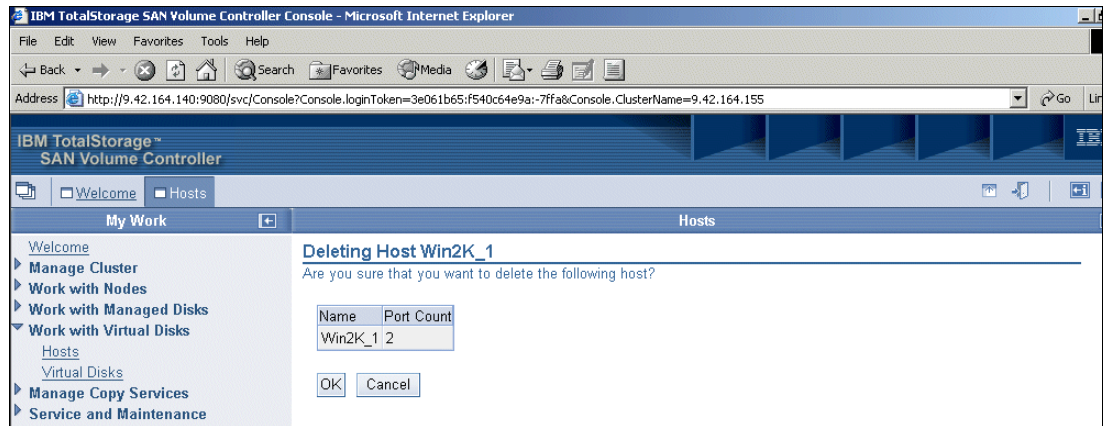

Figure 9-55 Deleting a host
2. On the Deleting Host *hostname* panel (where *hostname* is the host you selected in the previous step), click **OK** if you are sure you want to delete the host. See Figure 9-55.